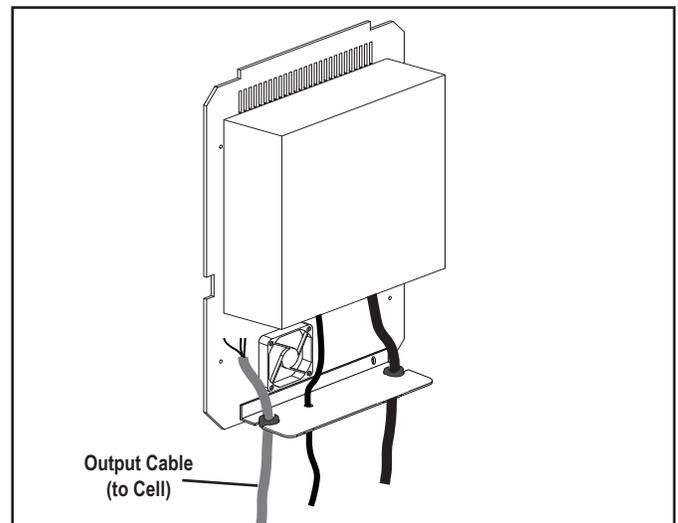

Figure 6. Output Cable Assembly Detached
5. Disconnect the Output Cable from the Power PCB (see Figure 6).